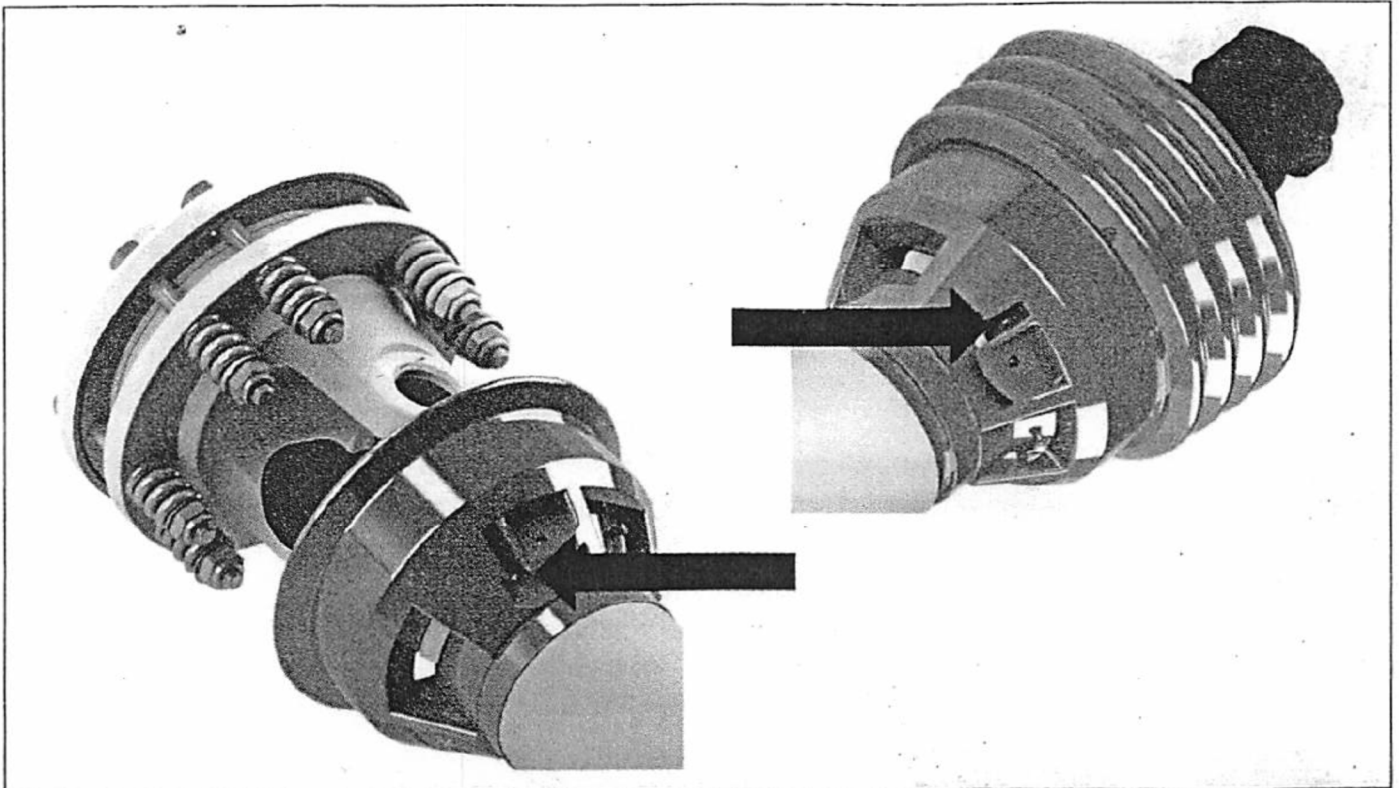
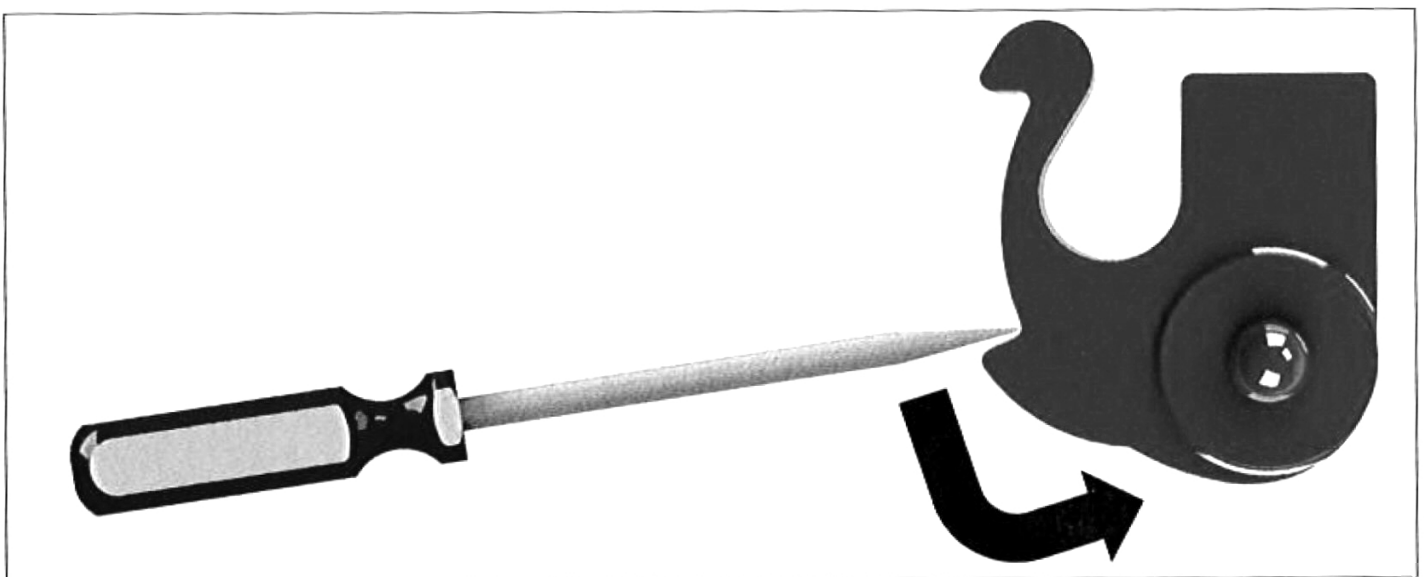

Figure 11 (Step 2)
Figure 12 (Step 2)
- 2). Locate the bearing clip at either end of the driveline. Insert a flathead screwdriver into the groove indicated in (Figure 11), below. While pressing inward on the arm of the bearing clip, rotate the bearing clip in the counter clockwise direction in (Figure 12).